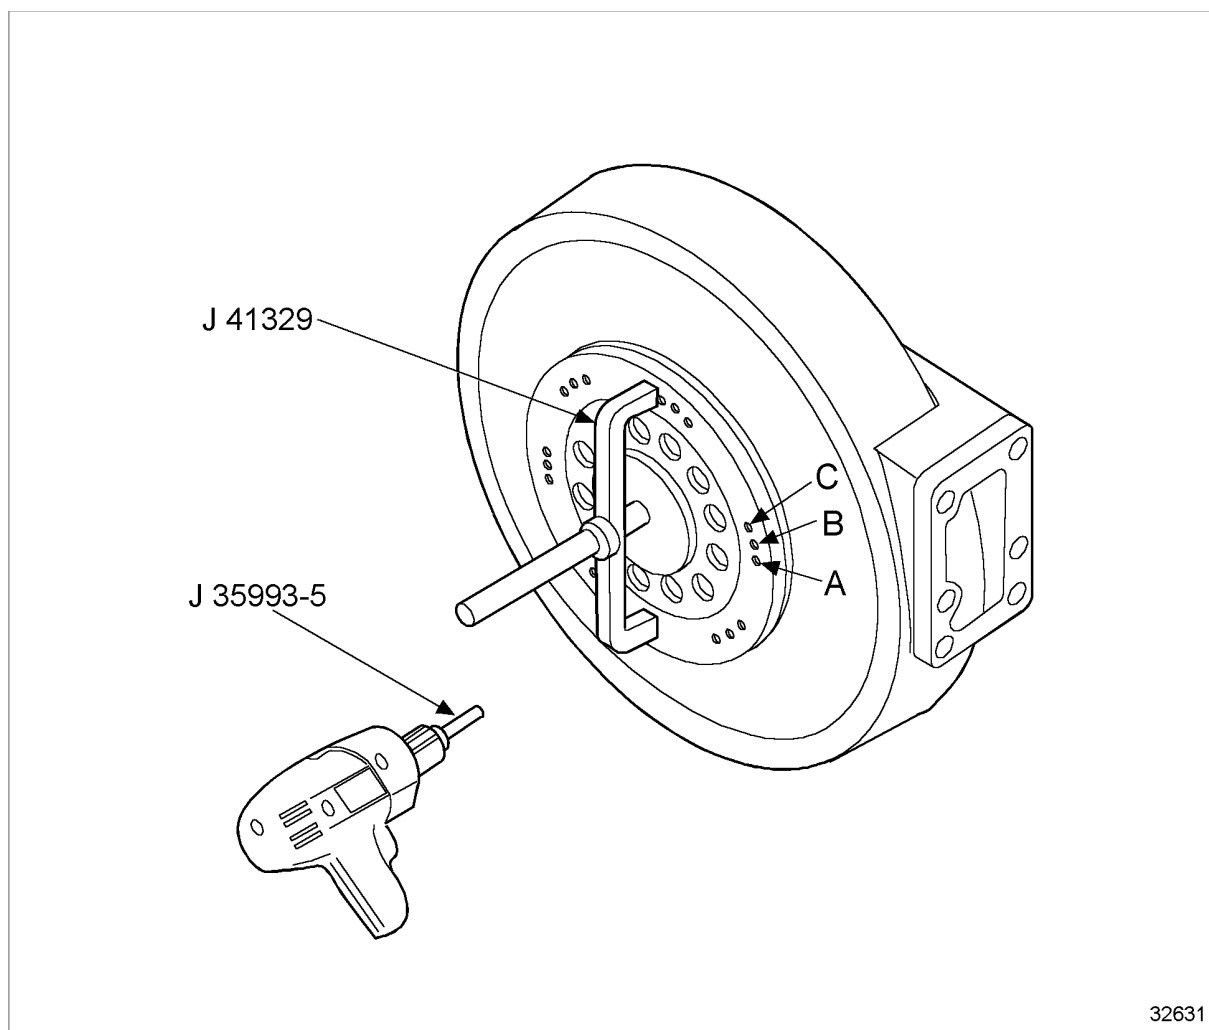

Figure 1-127 Rear Oil Seal Removal
2. Using variable speed drill motor and 5/32" bit, drill through outer and inner case of seal using smallest hole "A" as a guide. See Figure 1-127.